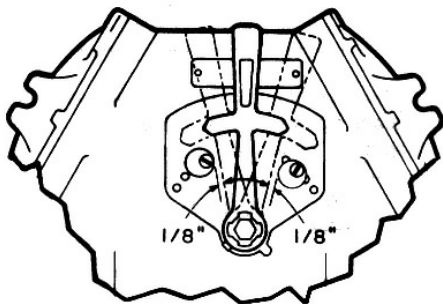

Figure 3
D. Reinstall mounting plate and switch into the enclosure so that the switch load terminals are on the bottom. Tighten the four (4) mounting plate screws to provide a good ground connection between the mounting plate and the enclosure.
F. Check the operating handle travel by readjusting the over-travel stops on the outside of the enclosure so that there is a maximum of 1/8" clearance between the stops and the operating handle, after movement in either direction (See Figure 3).